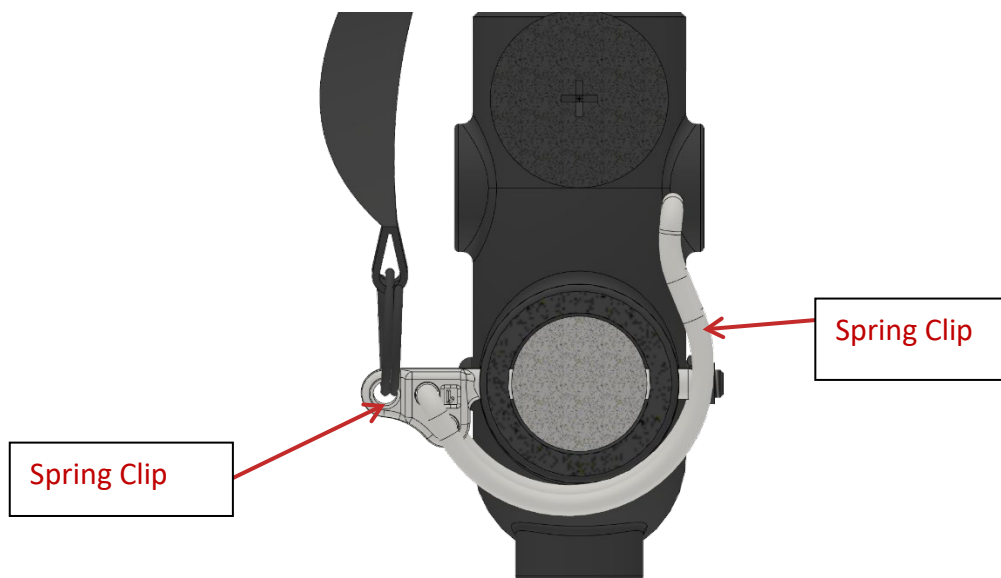

Figure 11 Crosssection view of properly closed spring clip
Step 1: Place the upper frame with mounted projector on top of the lower frame with mounted projector. Make sure the four male bolts enter into the correspondent female bolts. To secure, insert the spring clips through the holes in the female bolts. Always make sure that the spring clips are locked after being inserted. See also Figure 11 illustrating a properly closed spring clip.